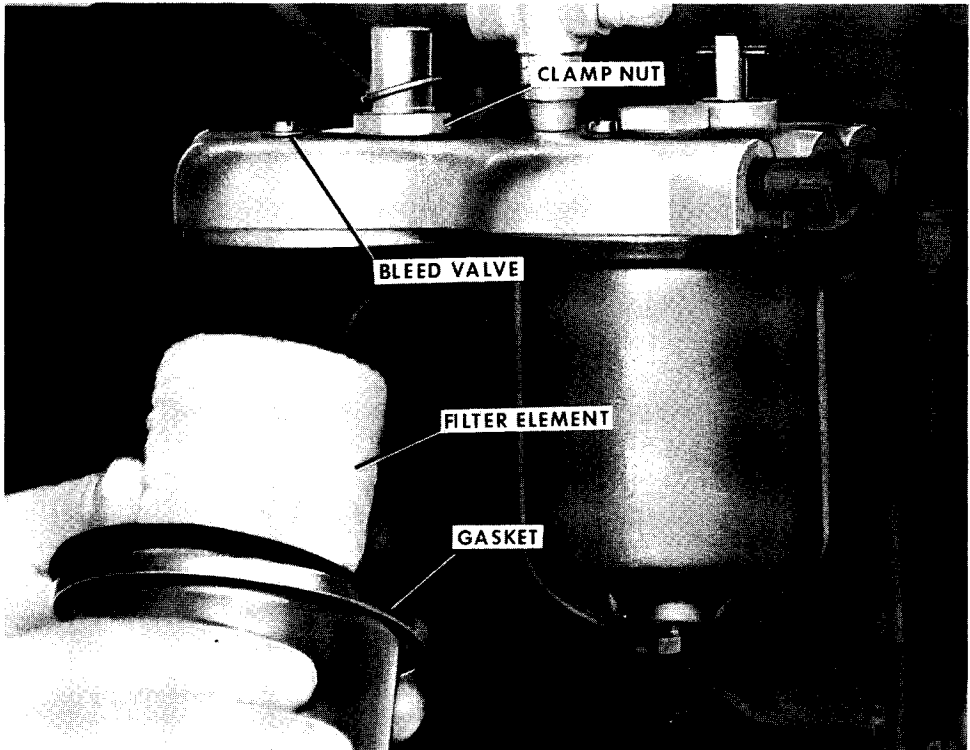

Figure 67
3. Loosen the filter clamp nut on the filter cover until the body can be lowered away from the cover, Figure 67.